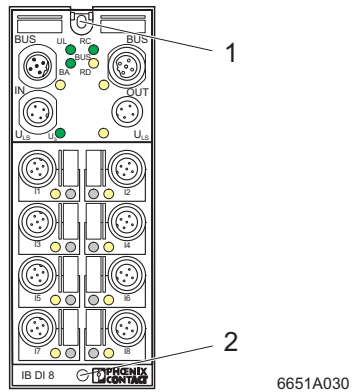

Figure 4-3 Front mounting (FLS)
- Screw the device directly onto the flat mounting surface using two mounting screws (1 and 2 in Figure 4-3).